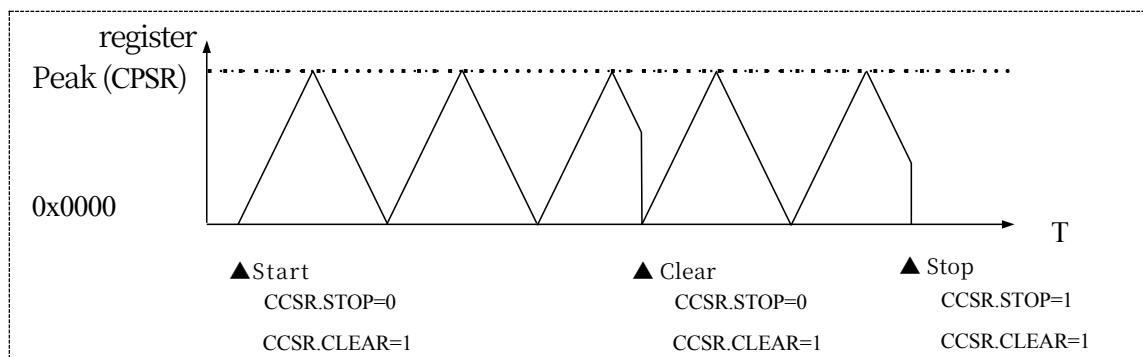

Figure 19-5 Timer4 Triangular Wave Mode Counting Action
- 2) The triangular wave counting operation and control flow is shown in Figure 19-5.